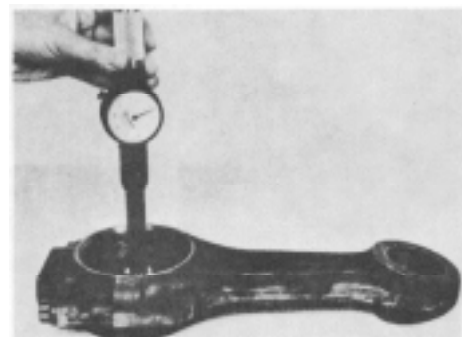

Figure 16C-24. Check Rod Crankpin Bore
- A. The bore diameter must be within 4.2520 to 4.2535 inch (108 to 108.2 mm) up to thirty degrees on either side of the parting line, Figure 16C-25.